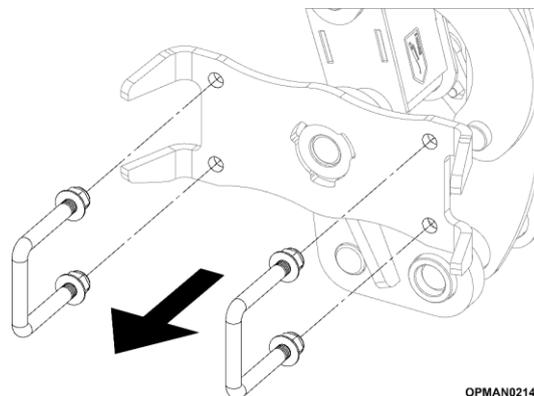

Figure 10
With reference to Figure 10, proceed as follows:
- 8.2.2.2 On the carrier arm, remove the pair of U bolts and nuts from the carrier clamp bracket; see Figure 10.